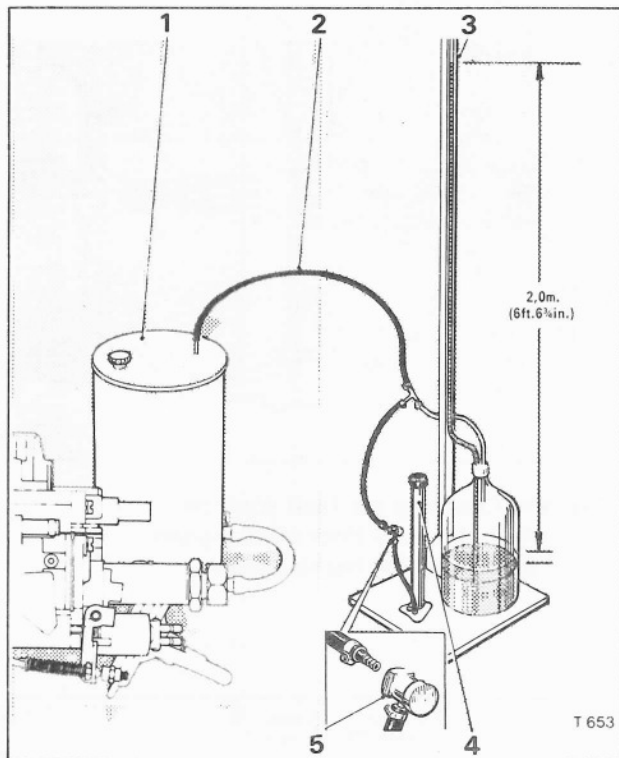

Fig. K72 Test equipment
7. Connect the test equipment shown in Figure K72 to the fuel inlet. Apply pressure with the hand operated pump until the column of water in the test
3. Ensure that an adequate supply of fuel is connected to the fuel inlet union of the carburettor. Connect the test equipment illustrated in Figure K72 to the fuel supply and apply pressure using the hand pump until the water column reading is 2.0 m. (6ft. 6 1/4 in.) which is equivalent to a pressure of 0.20 kgf/sq.cm. (2.86 lbf/sq. in.).